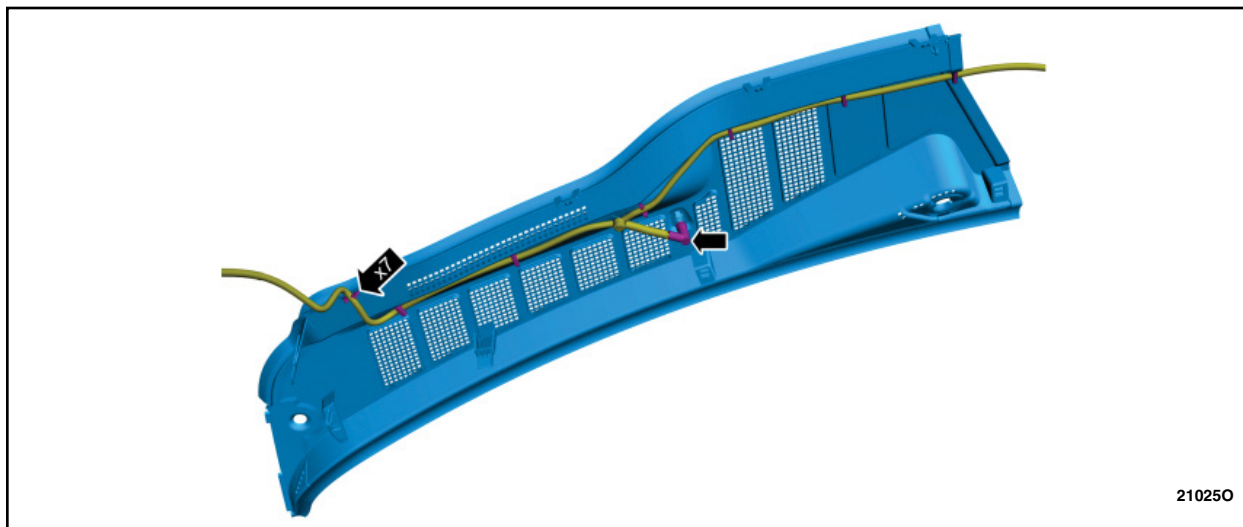

FIGURE 6
6. Disconnect the windshield washer tube and remove the cowl panel grille. See Figure 6.